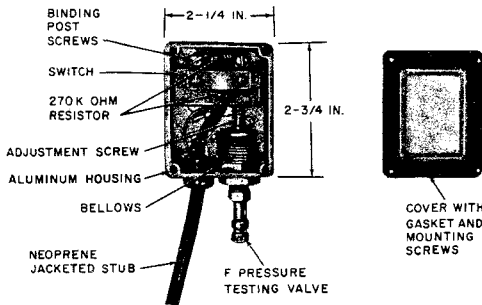

Fig. 2—M Pressure Contactor With Dual Resistors
- The *M pressure contactor* (Fig. 2) is equipped with a pipe threaded fitting on the back of the housing to permit making a direct pneumatic connection to the cable sleeve or sheath. A cadmium-plated elbow also is packaged with each contactor for use where a mounting is to be made to a splice case.